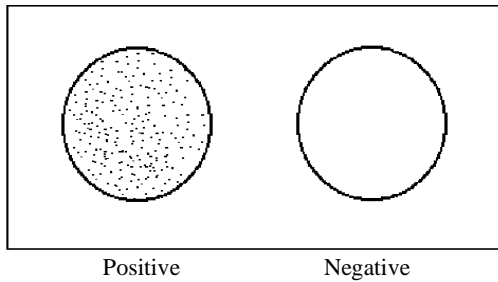

Figure 1.
5. Presence of agglutination of the latex particle is a positive result (see figure 1). Agglutination indicates a RF concentration of equal or more than 8 IU/ml. Sera with positive agglutination should be run again with the Semi-Quantitative Test.
2. Acceptable performance is indicated when a uniform milky suspension with no agglutination is observed with the RF Negative Control and agglutination with large aggregates is observed with the RF Positive Control. (Figure 1)
Positive Result: A positive reaction is indicated by any observable agglutination in the reaction mixture. The specimen reaction should be compared to the RF Negative and Positive Controls (Fig. 1).